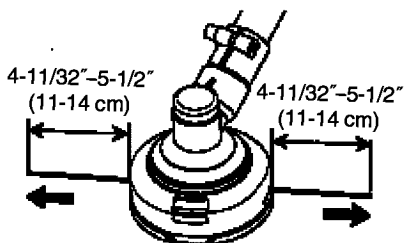

Fig. 42
- (7) The initial cutting line length should be approx.  $4\text{-}11/32\text{--}5\text{-}1/2\text{''}$  (11-14 cm) and should be equal on both sides. (Fig. 42)